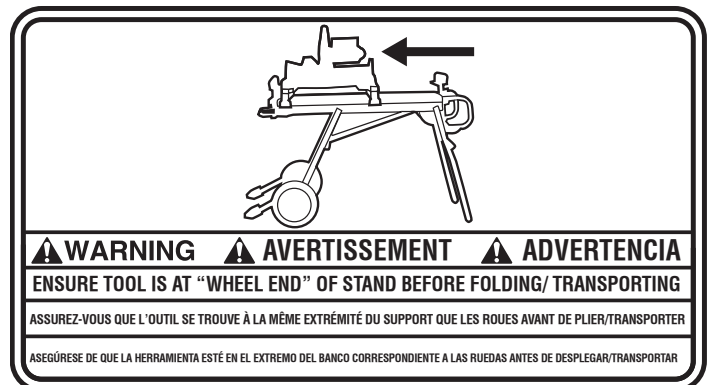

Fig. 17
**NOTE:** If saw is mounted, ensure that saw is in folding transportation position. See figure 17.
- Move miter saw to wheel end of workstand and secure per the instructions in this manual. See figure 17.